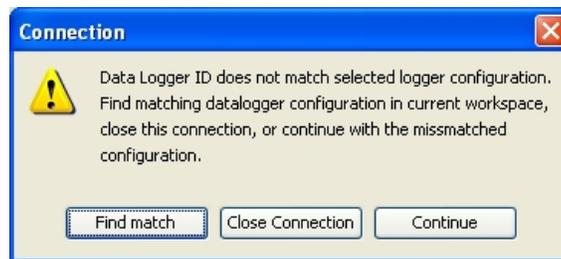

Figure 15 - Datalogger Connection Mismatch
- 2) When connecting to a new Datalogger for the first time, the message below (see Figure 15) may be displayed after a few seconds. This is normal and is only an indication that the datalogger does not match the configuration created in the Project Explorer. Click on **“Continue”** to finish connecting to the datalogger.